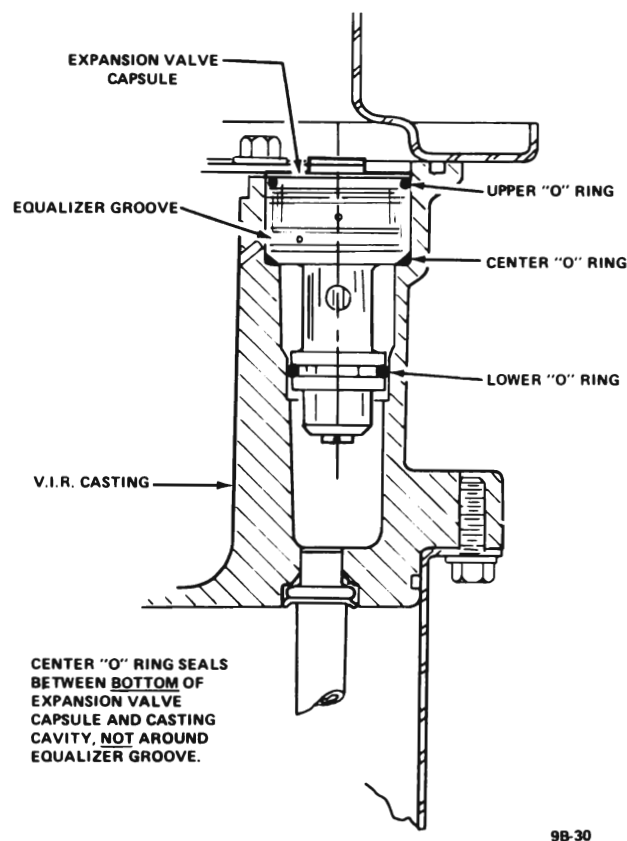

Figure 9B-34 Location of Upper and Lower "O" Rings on TX Valve
11. Install the new TX valve "O" ring to the TX valve cavity. The center "O" ring seals between bottom of expansion valve capsule and casting cavity, not around equalizer groove. Carefully install the new TX valve capsule in the valve cavity and press into place by hand. See Figure 9B-34.